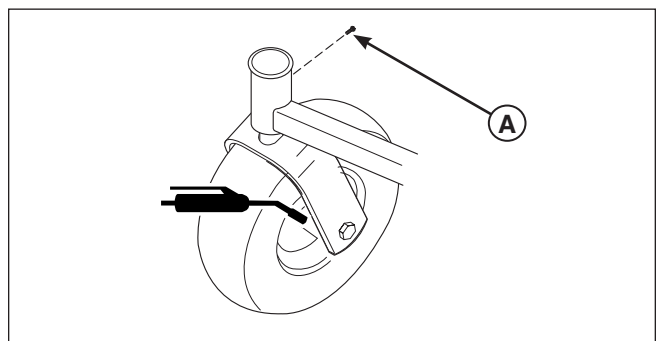

Figure 24. Front Caster & Wheel
1. Remove the 1/4-28 bolt (A, Figure 24) screwed into the caster and install a 1/4-28 grease fitting.